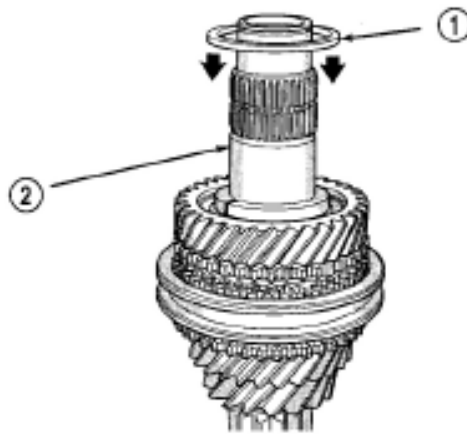

Figure 3-138 Assembly of stopper
(9) Assemble the split thrust washer stopper (Figure 3-138).